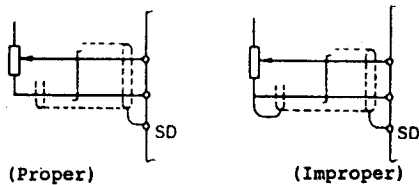

Fig. 4-13 Connection I of shield sheath
- ① Connect the outer sheath of the shield cable to the terminal SD of the servo amplifier connector, and be sure to open the other end. Refer to Fig. 4-13 and 4-14.